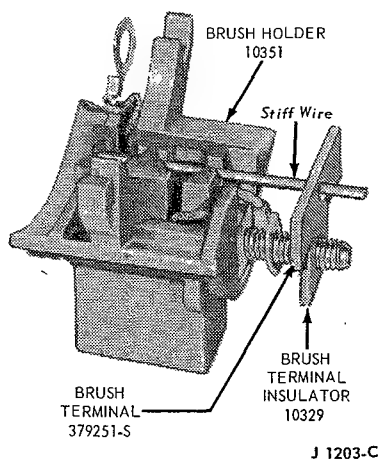

FIG. 14 Brush Holder Assembly
7. Place the brush springs, brushes, brush terminal and terminal insulator in the brush holder and hold the brushes in position by inserting a piece of stiff wire in the brush holder as shown in Figure 14.